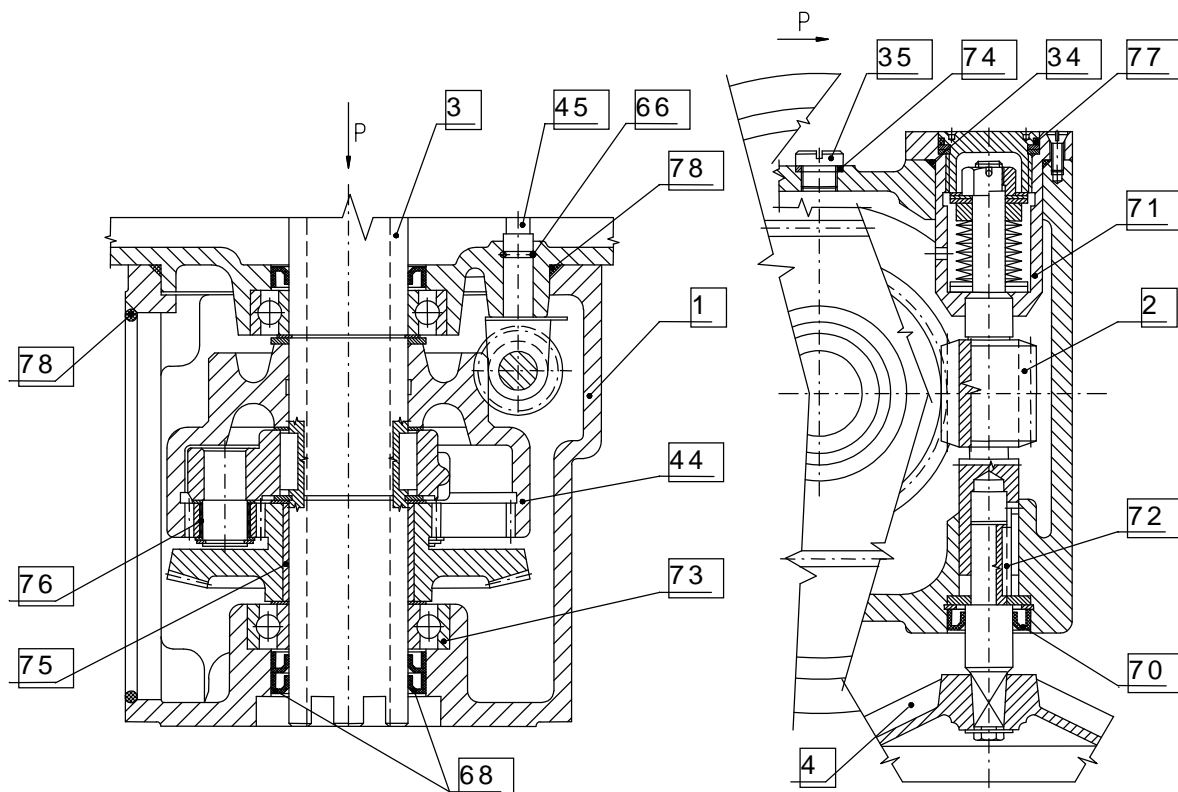
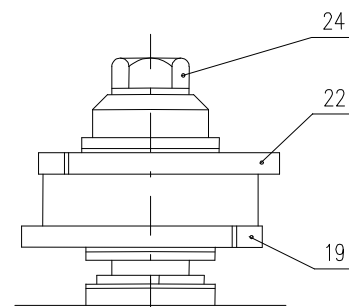

Fig.2
Fig. 8
Module M3 – a gearbox with a manual control mechanism (Fig.2)
- Torque unit (fig.8)
Torque switch unit consists (Fig.8)
Cam unit (Fig.8) is formed by two adjustable cams (19) and (22) placed on the shaft of the torque control element (45) Fig.2). The cams are turned according to the set switch-off force.